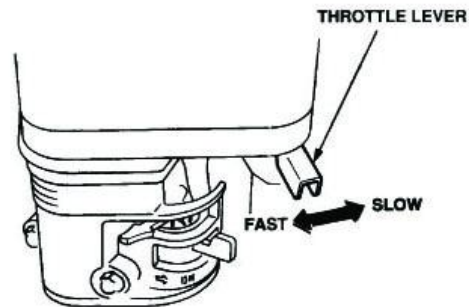

Figure 12. Throttle Lever
4. Place the *throttle lever* (Figure 12) halfway between *fast* and *slow*.